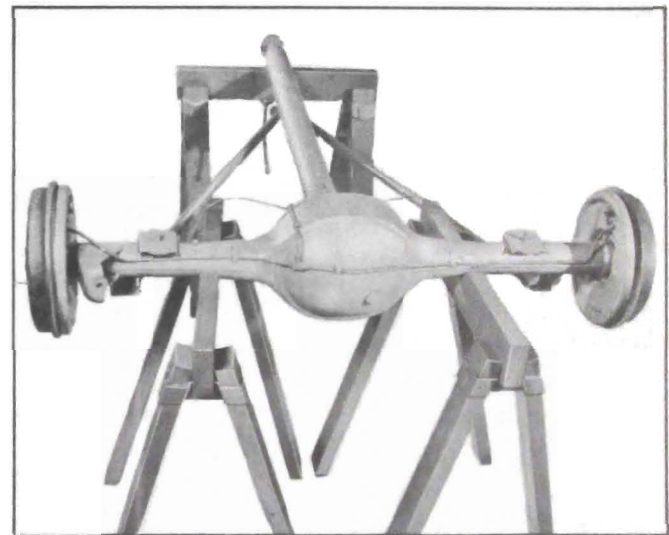

Figure 6-9—Placing Rear Axle Assembly on Stands
2. Place axle assembly on suitable stands. See figure 6-9.